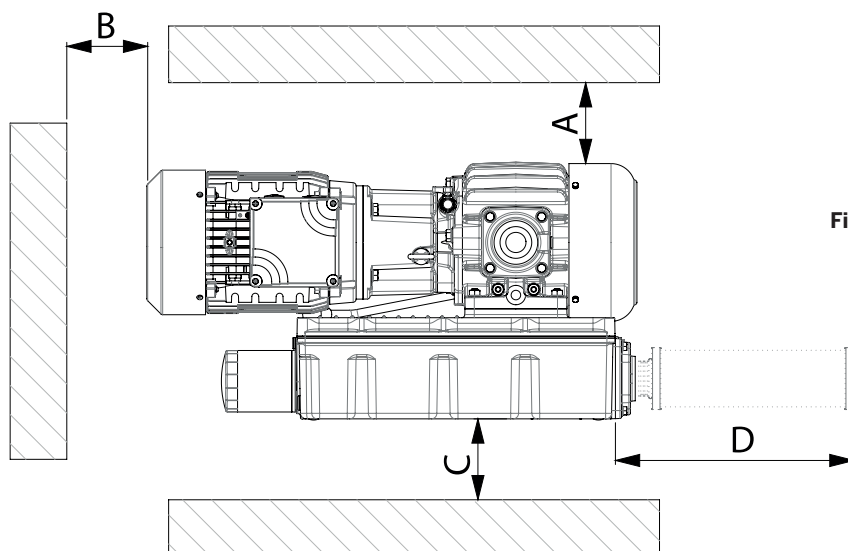

Fig.5
- It must be accessible for correct and easy maintenance, by respecting the minimum distances from possible obstructions (see Fig. 5).